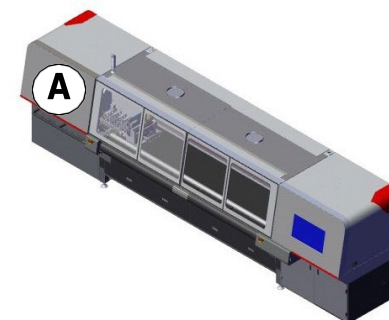

Figure 6-14 Printer Front View
3. Open the carriage compartment door, Figure 6-14 location (A).